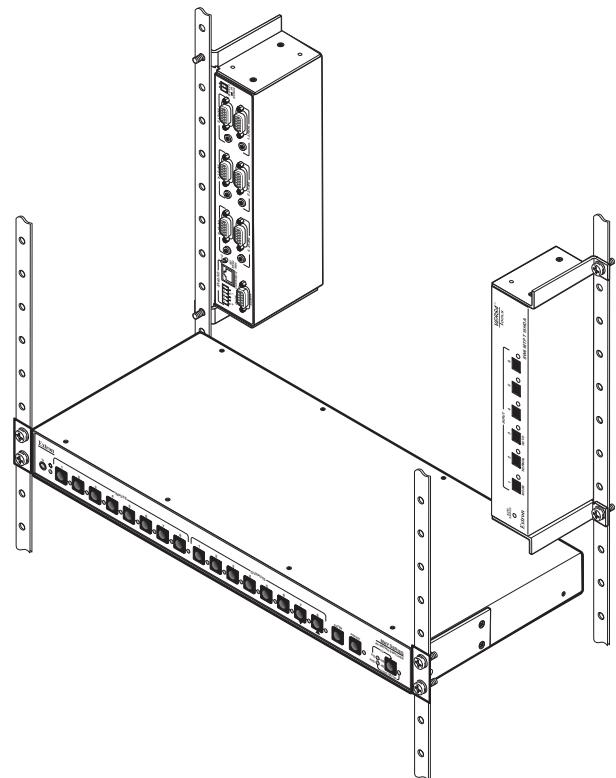

Figure 2-4 — Typical back of the rack installations
5. Mount the unit to the rack using the two included rack screws (figure 2-4). The SW MTP T can be vertically mounted facing in either direction.